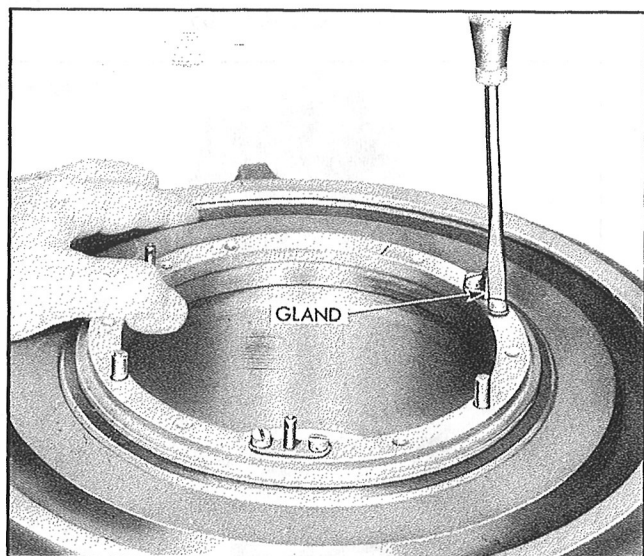

Figure 182—Removal of Control Screw Glands, Models A632S-A1, -A2
*Step 6.*—For Models A632S-A1 and -A2, remove the control screw glands from the regulator ring by removing the attaching screws from each. Pry out the control screw packing from each control screw hole by using a small punch. See Figure 182 and Figure 176-B.